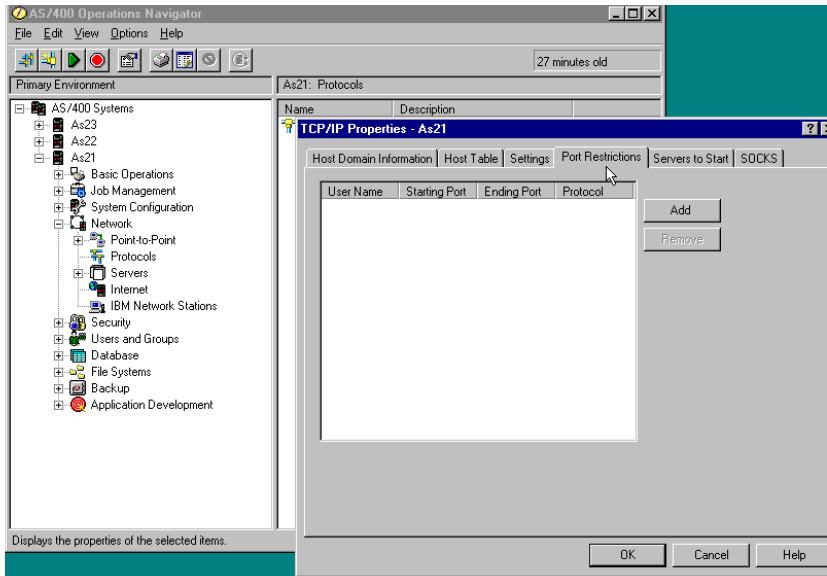

Figure 327. Port Restrictions
- Click the **Port Restriction** tab to limit port use to a user profile name. If you want to restrict a single port, you must specify the same starting and ending port number. Figure 327 shows the Port Restrictions dialog.